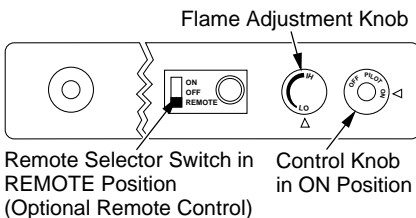

Figure 22 - Setting the Remote Selector Switch, Control Knob, and Flame Adjustment Knob for Remote Operation
1. After lighting, let pilot flame burn for about one minute. Turn control knob to ON position. Adjust flame adjustment knob anywhere between HI and LO. Slide the selector switch to the REMOTE position (see Figure 22). **Note:** The burner may light if hand-held remote was on when selector switch was last turned off. You can now turn the burner on and off with the hand-held remote control unit.